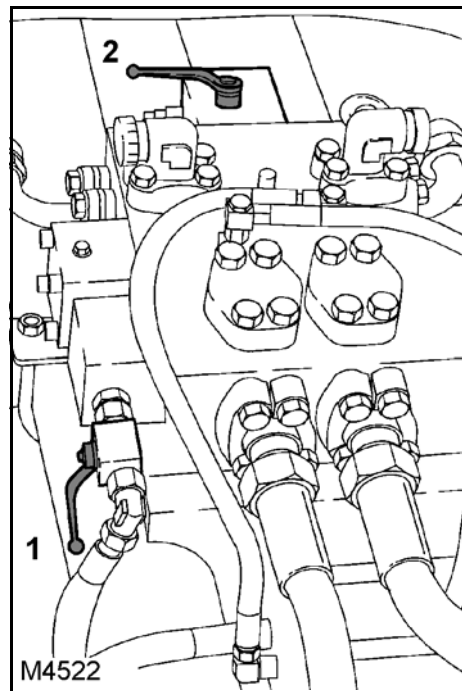

Fig. 354
- Close the ball valve (1) (**Fig. 354**) from the concrete pump control block. Closing the ball valve prevents the piston rods from switching into their end positions.